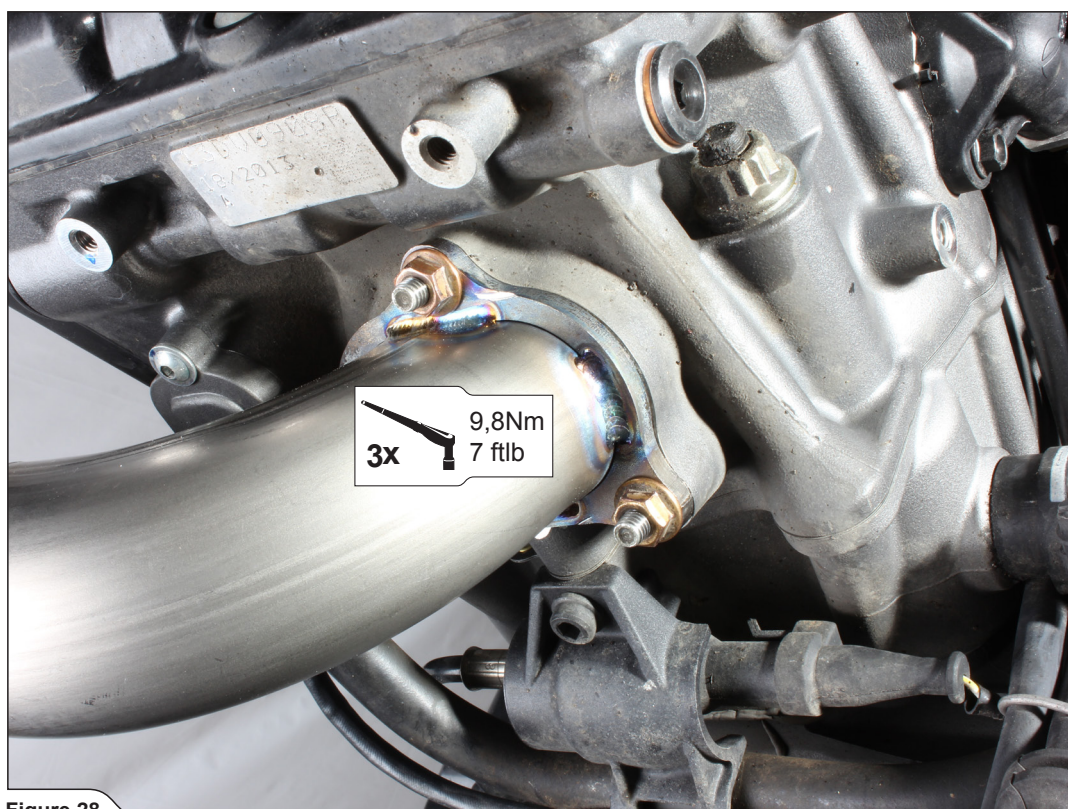

Figure 28
9. Tighten the front header to the specified torque (Figure 28).